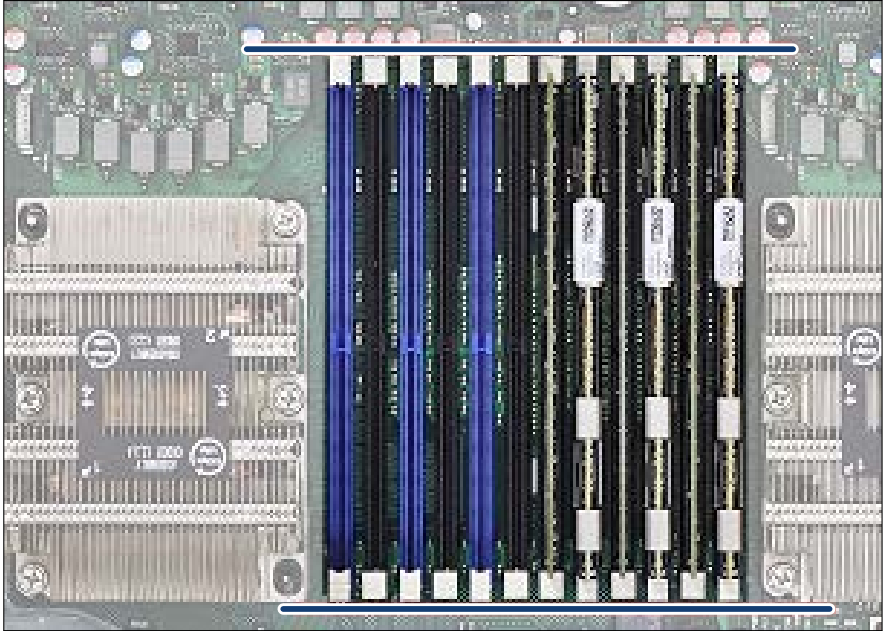

Figure 206: Correct position of securing clips
- ▶ Check if all securing clips are in the correct position, see Figure 206.